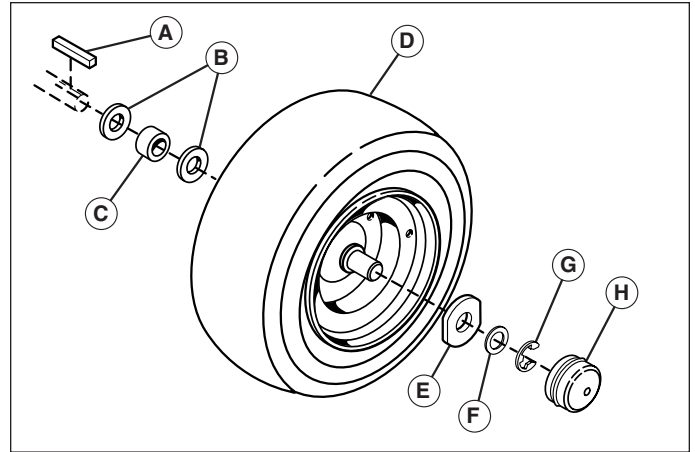

Figure 23. Rear Axle Hardware
5. Reinstall the components in reverse order of disassembly and lower the unit. Be sure the key (A, Figure 23) is in place in the axle keyway.